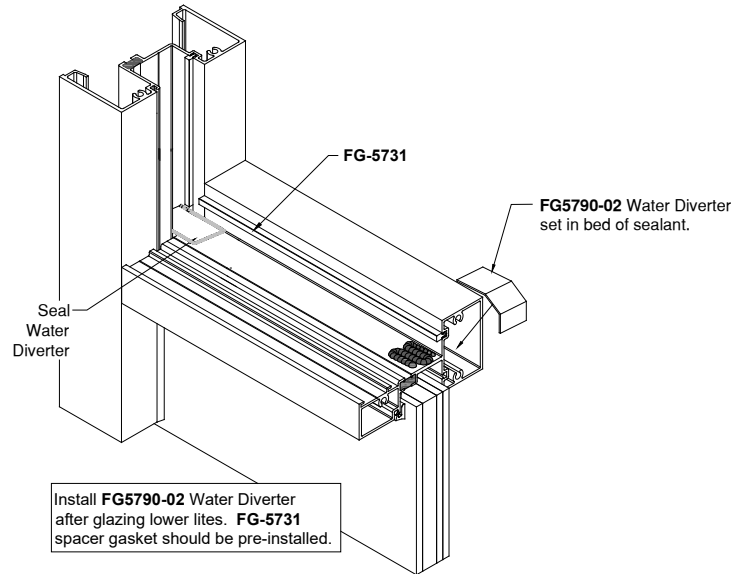

Figure 24: Water Diverter Installation
NOTE: When installed, vertical Gasket runs through while horizontal Gasket butts into the vertical Gasket. Reference Figure 24 for representation of the Gasket corner.
16.2.3 Install **FG5790-02** Water Diverters at intermediate horizontals after lower lite is in position. Place a bed of sealant on the end of the Horizontal and place the Water Diverter per *Figure 24*.
17.1.3 Install Water Diverters after lower lite is in position. Place a bed of sealant on the end of the Horizontal and place the Water Diverter per Figure 24, page 29.